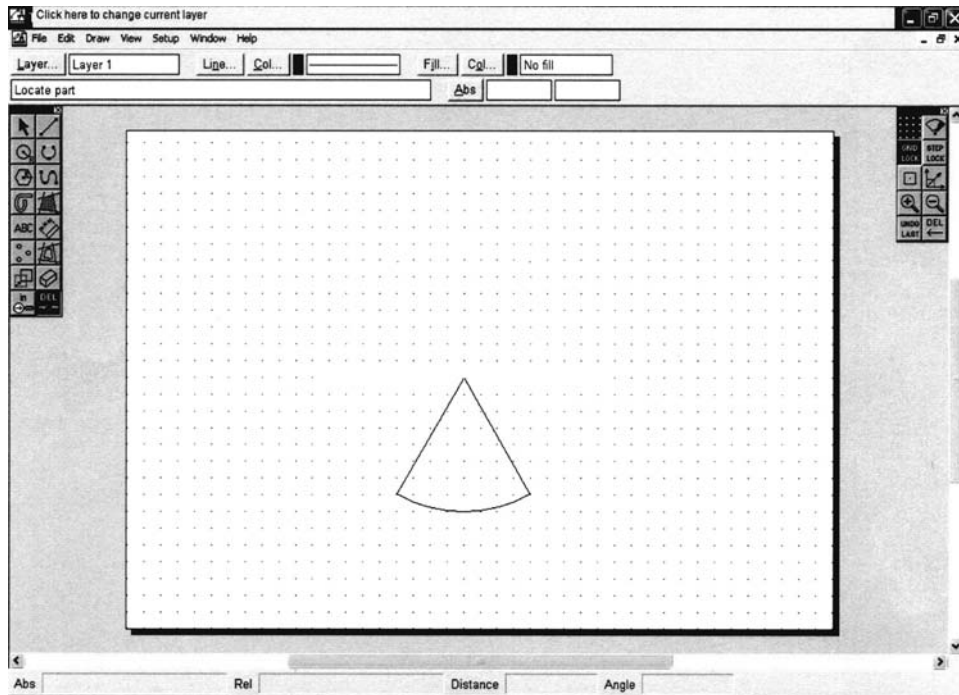

Fig. 2
- (a) The computer screen in Fig. 2 shows **one** piece of the puzzle drawn using a CAD software program.